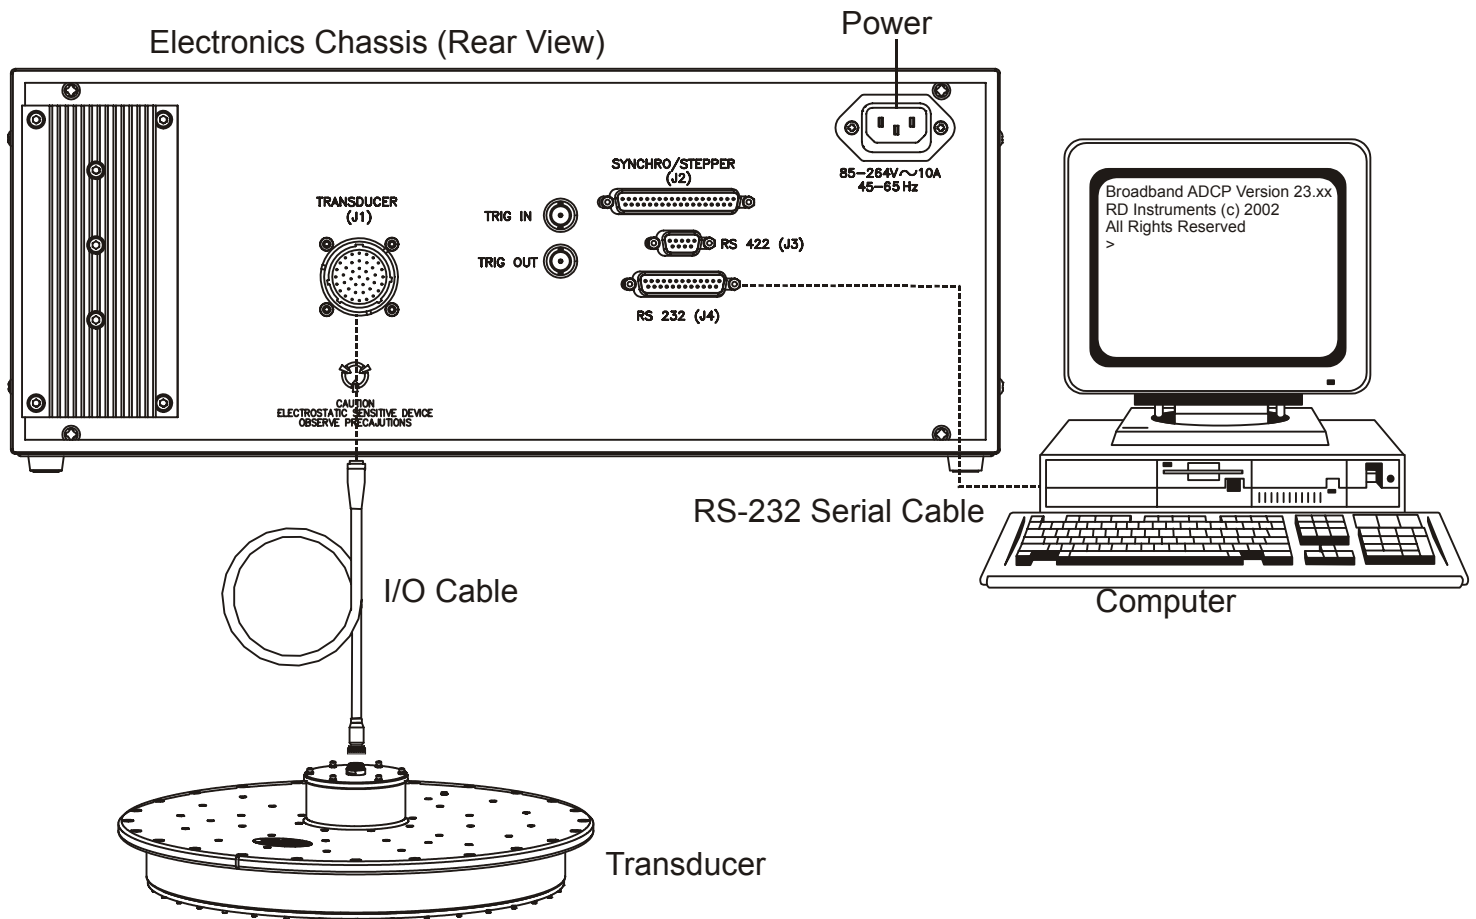

Figure 2. Ocean Surveyor/Observer Connections for Bench Test
- a. Connect the ADCP as shown in Figure 2. Place the transducer in a bucket of water (enough water to cover the transducer head). If the transducer is not placed in water, some of the tests will fail.